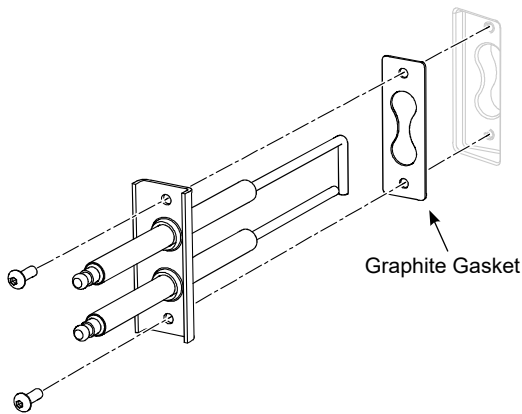

Figure 25: Igniter Electrode Assembly
- e. Install igniter electrode in the orientation shown in Figure 25; otherwise, the unit will not light.